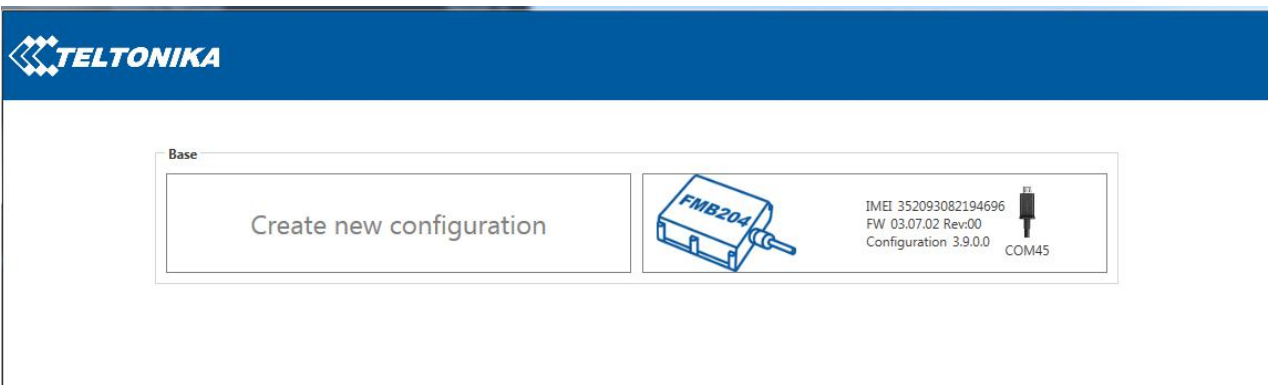

Figure 37 FMB204 configurator connected devices window
- Launch **FMB Configurator** and connect to device as shown in **Figure 37** below.
- After successful connection to device wait few moments while device load current configuration, then go to blue-tooth section that visible at **Figure 37**.